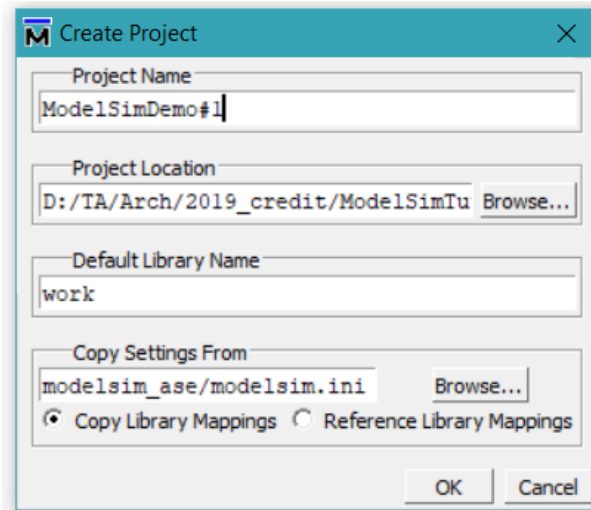

Figure 1: Create Project
2. Write a Name for your Project, and remember the location you saved it in. Fig.1
3. The Library is where all the compiled designs are saved, its default name is work. Fig.1